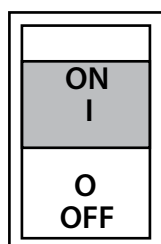

Figure 24. Main Circuit Breaker (ON)
- Place **main** circuit breaker (Figure 24) in the **ON** position.